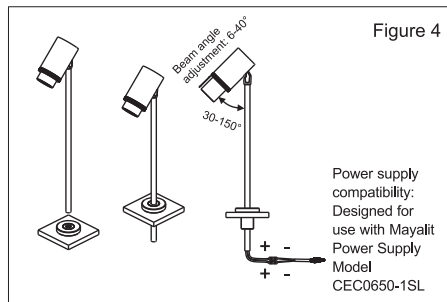

Figure 4
2. Insert the luminaire input cable and pole successively into the holes of the mounting assembly. The pole allows 360° horizontal rotation and 30°-270° vertical tilt adjustment. (Figure 4)